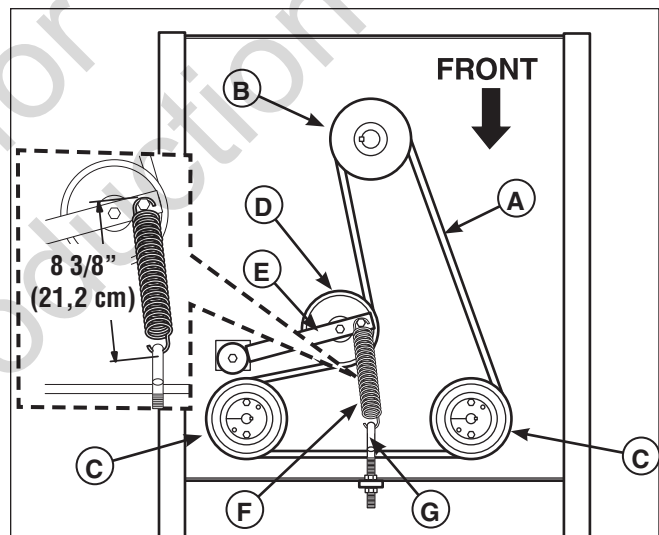

Figure 36. Hydraulic Pump Drive Belt Replacement
4. Loosen the nut towards the front of the machine on the spring anchor hook (**G**, **Figure 36**) to release the majority of the belt tension. Use caution and remove the nut to completely release the tension.